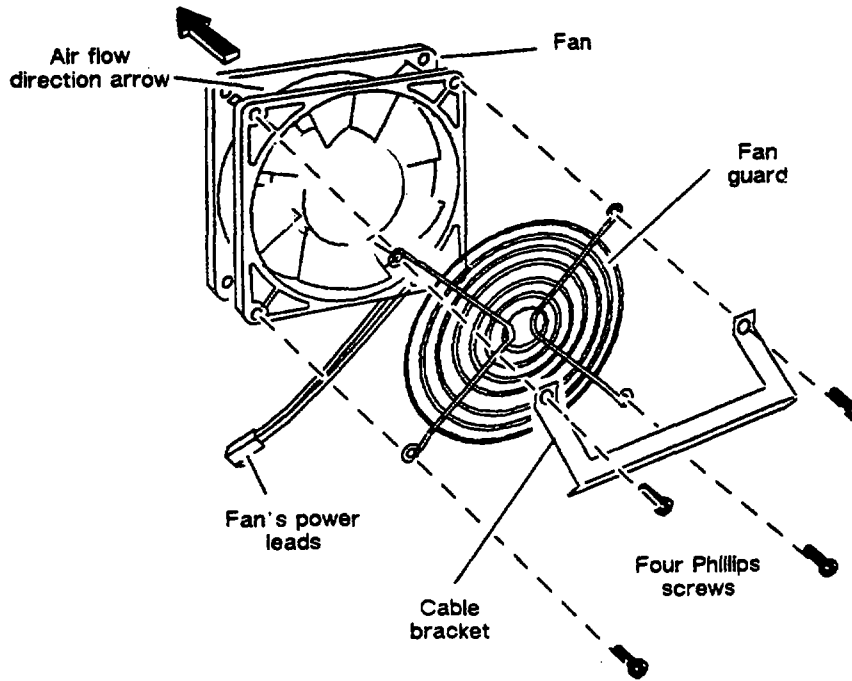

Figure 4-19 Fan Assembly
6. Position the replacement fan, as shown in Figure 4-19, with the fan's power leads in the lower left corner and the air-flow arrow on the fan pointing away from where the cable bracket and the fan guard will attach.
7. Attach the cable bracket and fan guard to the fan with the four Phillips screws, as shown in Figure 4-19.